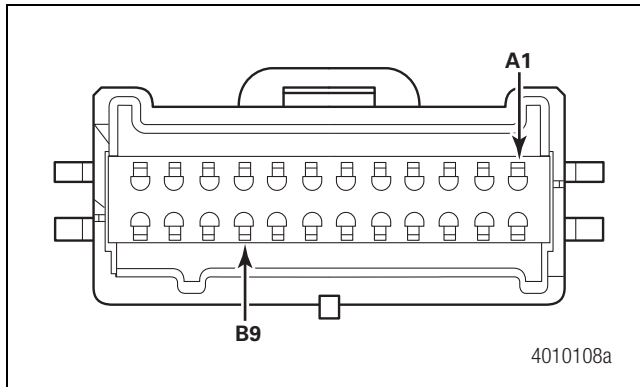

Figure 2.18
1. Disconnect the LDW connector and measure from terminal A1 to the ground terminal B9 on the vehicle harness side for short to 12 volts. Figure 2.18.